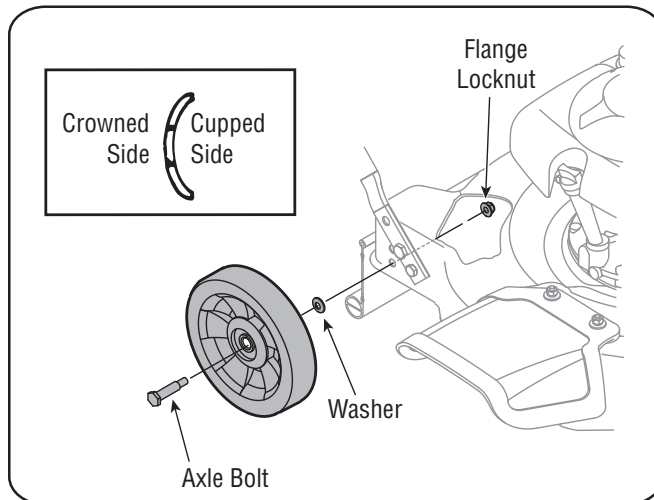

Figure 3-4
2. Place axle bolt through the wheel with the hub side of the wheel facing the deck. See Figure 3-4.
3. Place the washer on the axle bolt with the cupped side towards the deck. See Figure 3-4.